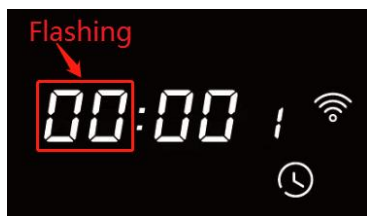

Figure-1
- Hour setting: Press **+** or **-** to set the hours, the setting range is 0~23 in steps of 1H. Press and hold the button to speed up. (Figure-1)